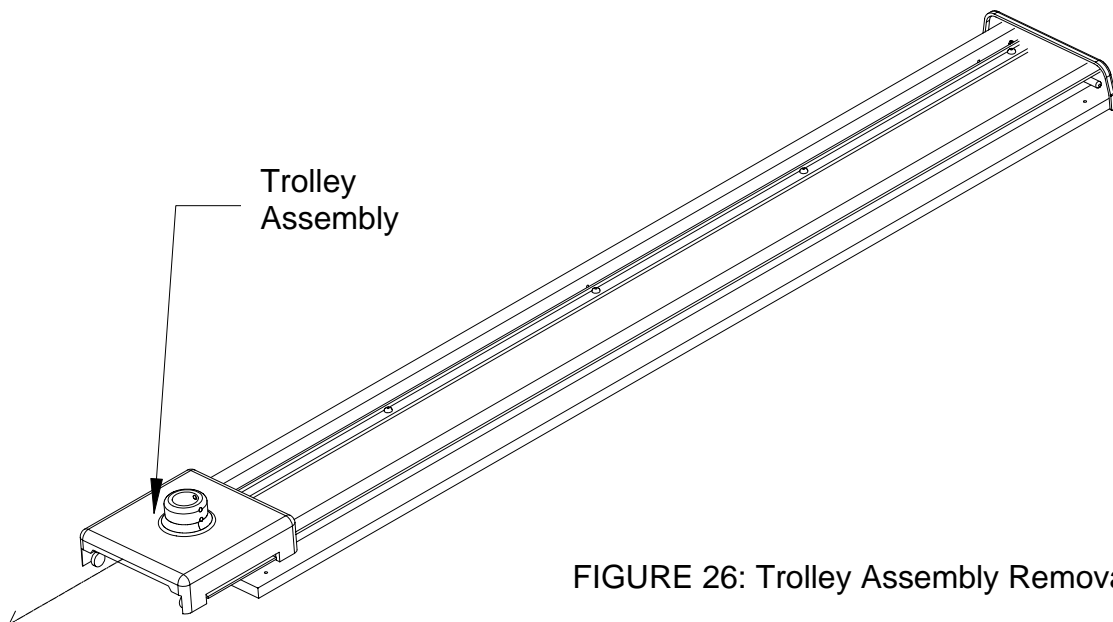

FIGURE 26: Trolley Assembly Removal
- Slide the trolley assembly P/N 1001186 off the track. See figure 26.